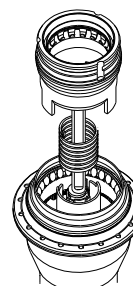

Fig 5
7. Fit the driver and ensure that the three protrusions on the driver engage with the first gear unit. (Fig 5)